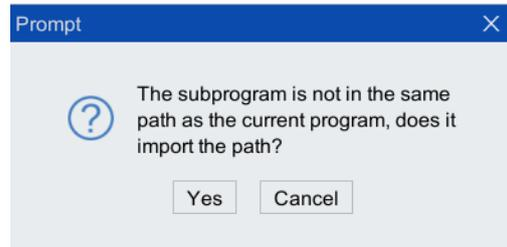
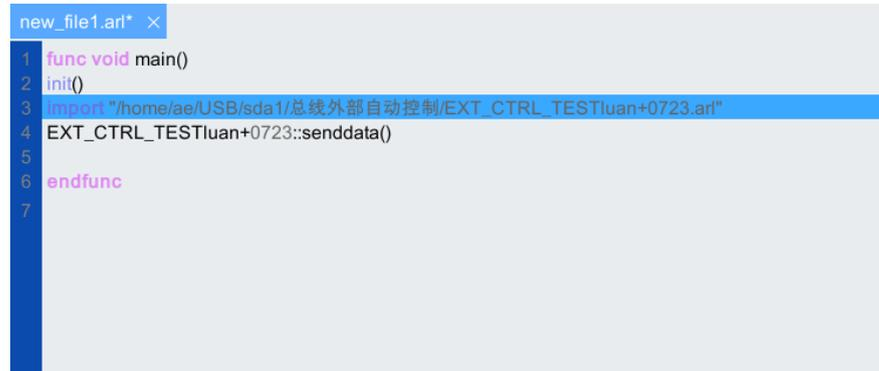

Figure 5-61 "Are you sure to Import Path" dialog box
Figure 5-62 Subprogram is inserted along with its path (if it is not in the same path as the main program)
Step5.If the subprogram (senddata) to be inserted is not in the same path as the main program, "The subprogram is not in the same path as the current program. Does it import the path?" dialog box will pop up, as shown in Figure 5-61. Click <Yes> button, and then the subprogram will be inserted into the main program along with its path, as shown in Figure 5-62.